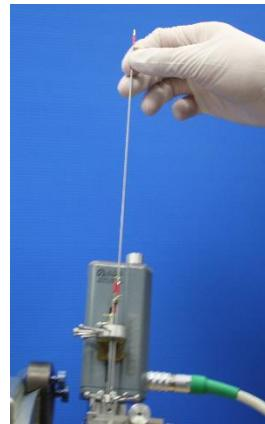

Figure 107: Removing the Electrodes
2. Loosen the retaining screws on the electrode holder, and then remove all of the electrodes (Figure 107).